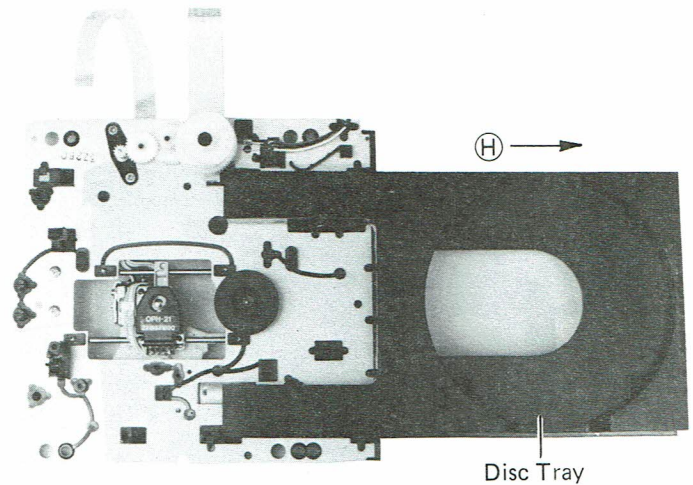

Figure 10
2. Pull disc tray to the direction indicated by arrow (H), and the disc tray will be removed. (Figure 10)